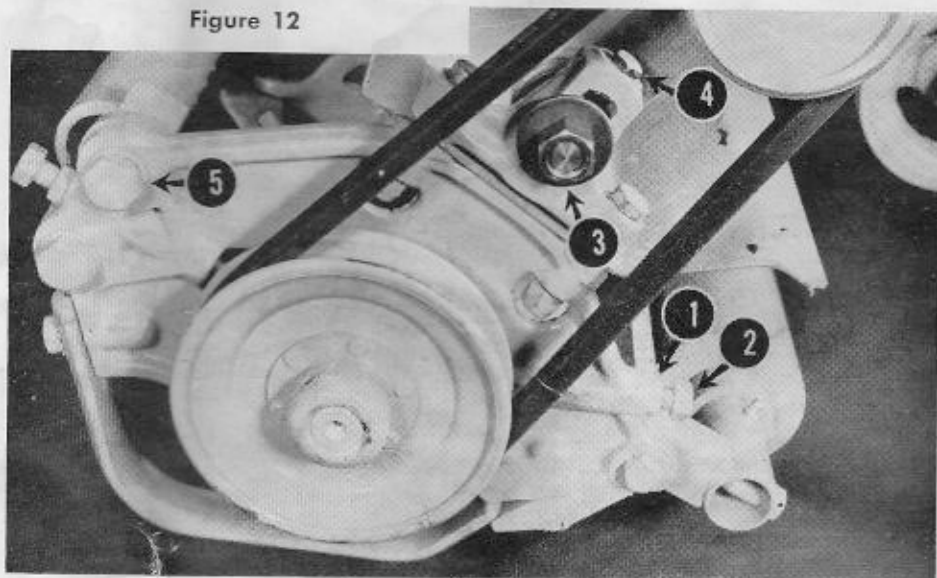
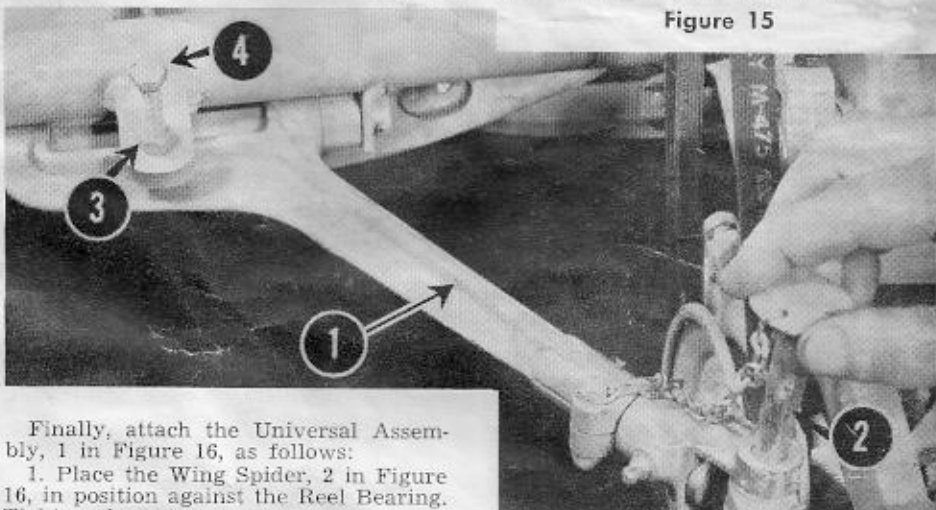

Figure 12
Figure 15
The Reel is adjusted by the Adjustment Lock Nut, 1 in Figure 12, and the Reel Adjusting Bolt, 2 in Figure 12. To move the Reel closer to the Bar, loosen the Adjustment Lock Nut and turn the Reel Adjusting Bolt counter-clockwise; to move it from the Bar, turn the Reel Adjusting Bolt clockwise.
To tighten a Belt, loosen the Belt Adjusting Nut, 3 in Figure 12, and turn the Belt Adjusting Bolt, 4 in Figure 12, clockwise. To loosen, turn the Adjusting Bolt counter-clockwise. After proper adjustment is reached, tighten the Adjusting Nut.
Next, attach the Leader, 1 in Figure 15, as follows:
1. Remove the top Tie Rod Bolt, 5 in Figure 12, replacing it with the Leader Pivot and Stud, as shown in Figure 15.
2. Attach the Leader Swivel to the Leader Pivot by using the Leader Swivel Pin, 2 in Figure 15. On new equipment, the Leader Swivel Pin may not fit easily because of paint on the Pin and inside the holes into which it fits. Use fine emery paper to remove the paint.
**CUTTING HEIGHT.** To adjust the cutting height, loosen the lock nut, 3 in Figure 15, and turn the Height Adjusting Screw, 4 in Figure 15, clockwise (to increase cutting height) or counter-clockwise (to lower cutting height). Tighten the lock nut when proper adjustment is reached.